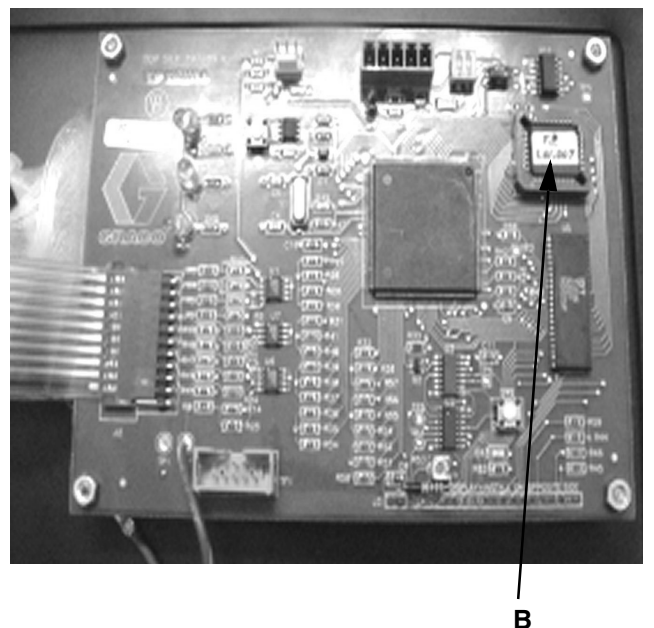

FIG. 1
3. Locate PCB chip (B) on display circuit board. See **FIG. 1**.
4. Remove old PCB chip (B) with chip extractor provided.